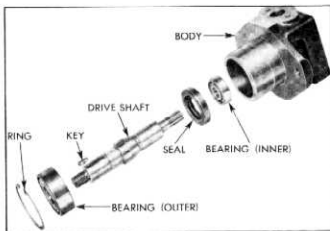

Fig. 27—Pump Body and Drive Shaft
16. Press sealed outer bearing off drive shaft over threaded end of shaft. Figure 27 shows the pump body and drive shaft parts.